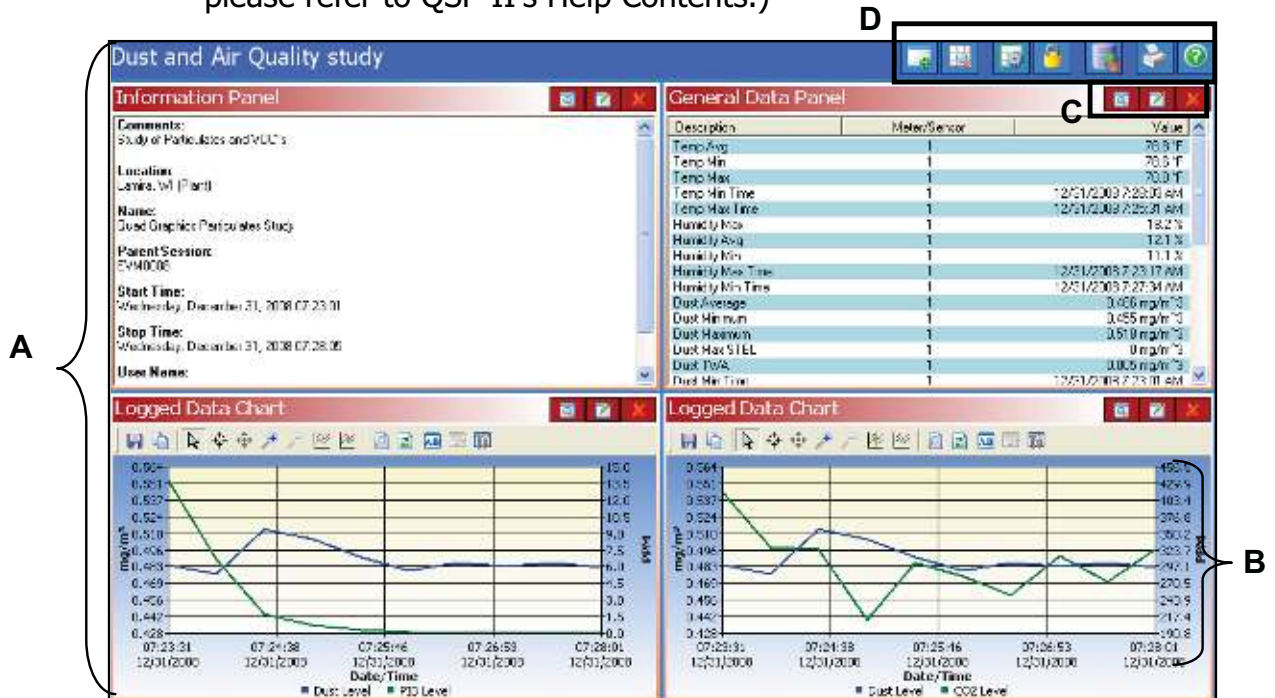

Figure 6-21: Viewing layout view (charts and graphs) in QSP-II
1. In the layout view of QSP-II, click on the **Manage Templates**  icon (see layout icon toolbar in Figure 6-21).